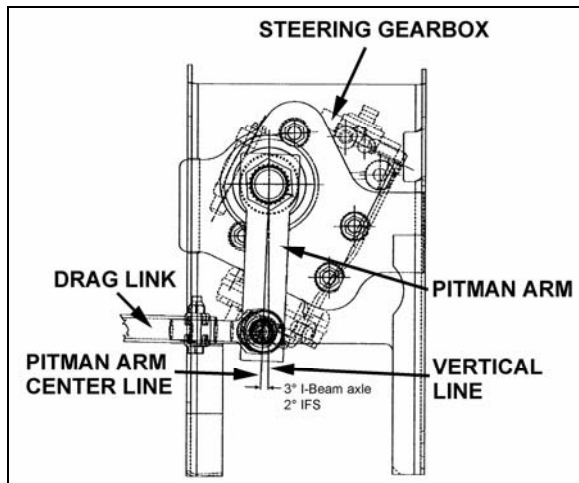

FIGURE 15: PITMAN ARM ADJUSTMENT
2. Using a protractor, check the angle of the pitman arm (refer to Fig. 15 for details).